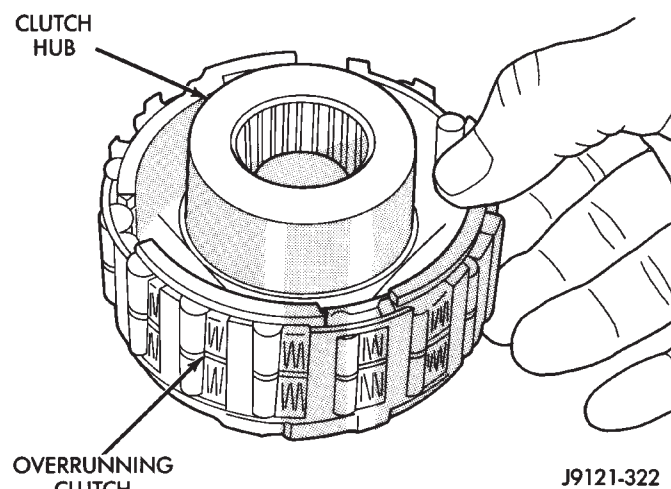

Fig. 330 Assembling Overrunning Clutch And Hub
(9) Install overrunning clutch on hub (Fig. 330). **Clutch only fits one way. Shoulder on clutch should seat in small recess at edge of hub.**